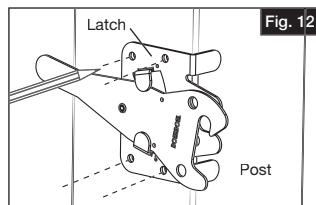

Fig. 12
- Hold latch against the side of the post and mark locations of pilot holes, as shown (Fig. 12).